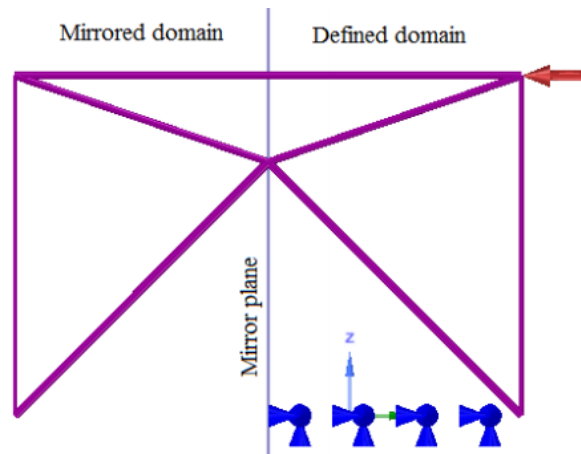

Figure 101 – Optimization using "Default" mirroring properties
- **Default:** load is applied only to one side of the design domain (Figure 101).